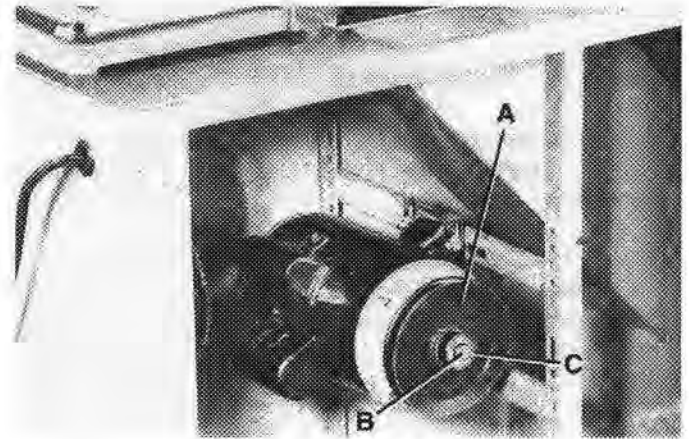

FIGURE 4
Assemble motor pulley (A) Fig. 4, on the motor shaft (B) with the hub of the pulley in the outer position as shown. Make certain key (C) is inserted in the keyway of the motor pulley and shaft. Tighten set screw (which is located on the pulley hub) against the motor shaft (B).